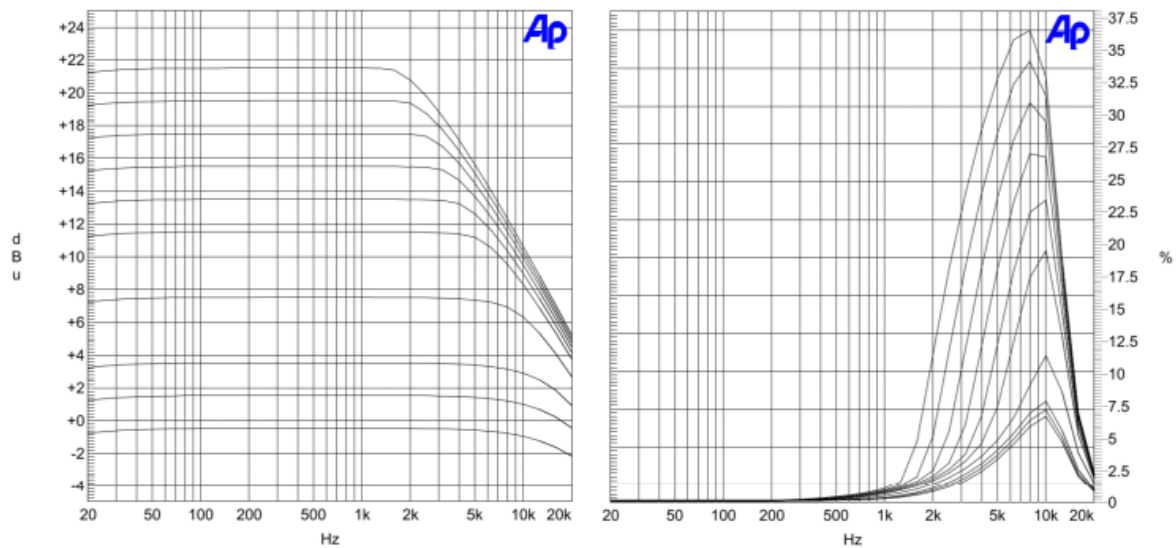

Figure 2: Frequency response and THD plot of an FK Comp fully dry
- Figure 2 is included to demonstrate this effect. The plots were generated from an FK with the mix knob fully counter clockwise.